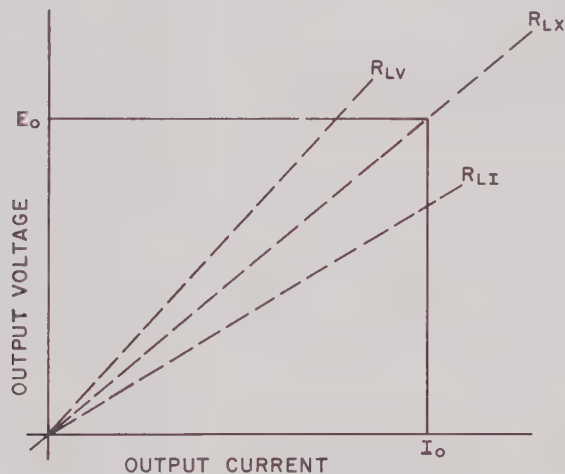

FIG. 4-1 CROSSOVER CHARACTERISTICS, ATE POWER SUPPLY.
$$R_{LX} = E_o / I_o \text{ (See FIG. 4-1).}$$
- 4-3 Any load resistance, **smaller** than R_{LX} (as for example R_{LI} in FIG. 4-1) will transfer the ATE into the "Current Mode." With a load resistance **larger** than R_{LX} (as for example R_{LV} in FIG. 4-1), the ATE will operate in the "Voltage Mode."